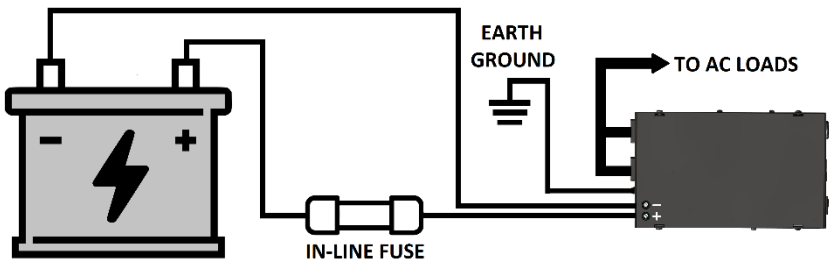

Figure 3. ICT SITE INVERTER 300 Wiring Diagram
4. An in-line fuse is recommended to protect the battery and wiring to the unit. Use 60A fuse for 12V inverter, 30A fuse for 24V inverter or 15A fuse for 48V inverter. The in-line fuse should be connected to the positive wire within 18 inches of the battery. Connect the battery to the input terminals located on the rear panel as shown in Figure 3. See “WIRE SIZING GUIDE” on page 4 for recommended input wire sizes.